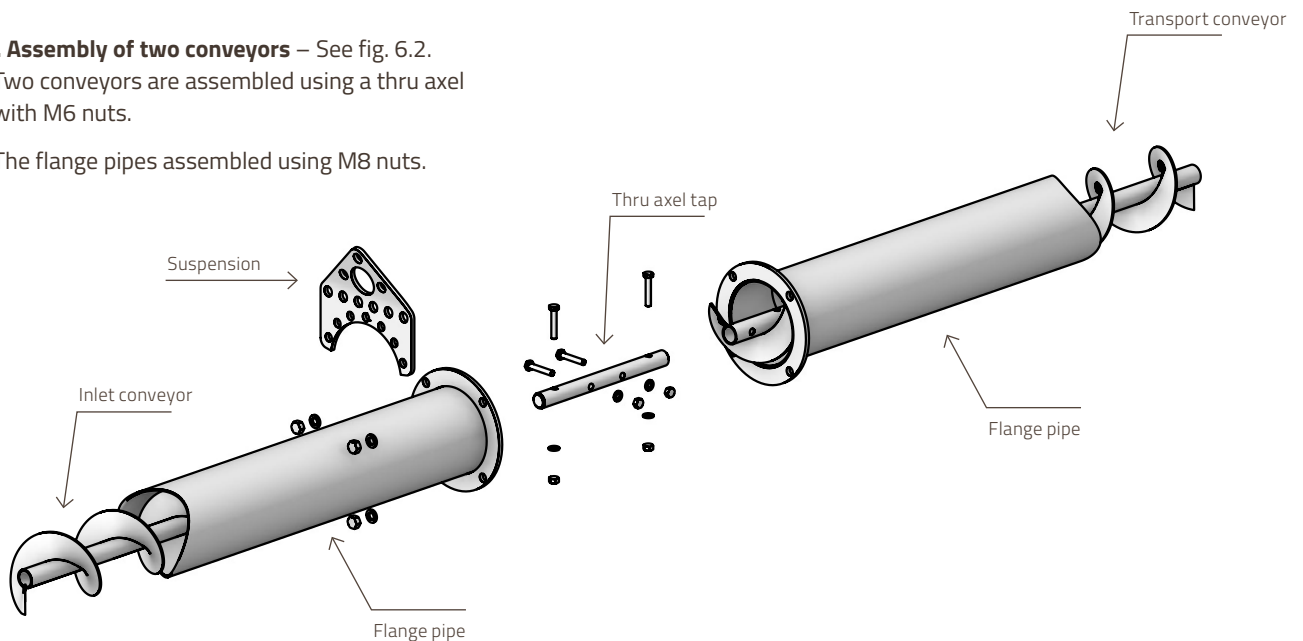

Fig. 6.2.
6.2. Assembly of two conveyors – See fig. 6.2.